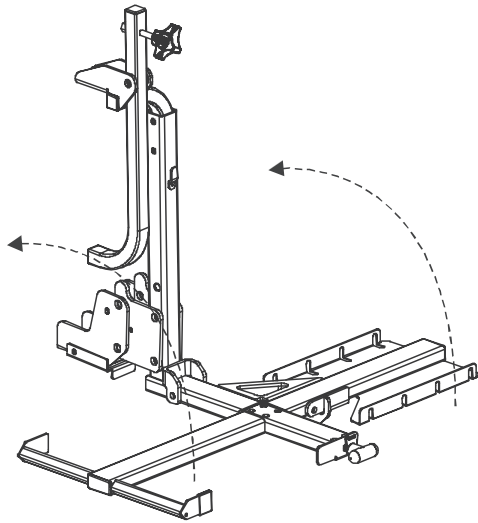

Figure 4-17
6. Lift the platform upright. *See Figure 4-17.*